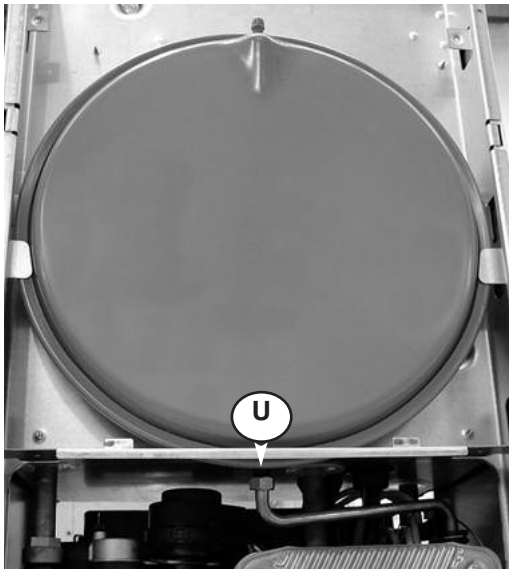

Fig. 93
4. Unscrew the nut **U** (see Fig. 93);